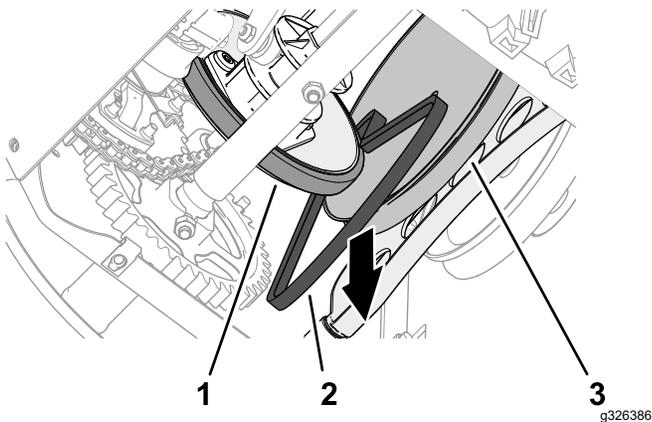

Figure 48
- Slip the traction belt between the friction wheel and the traction pulley, and remove the belt from the machine (Figure 48).